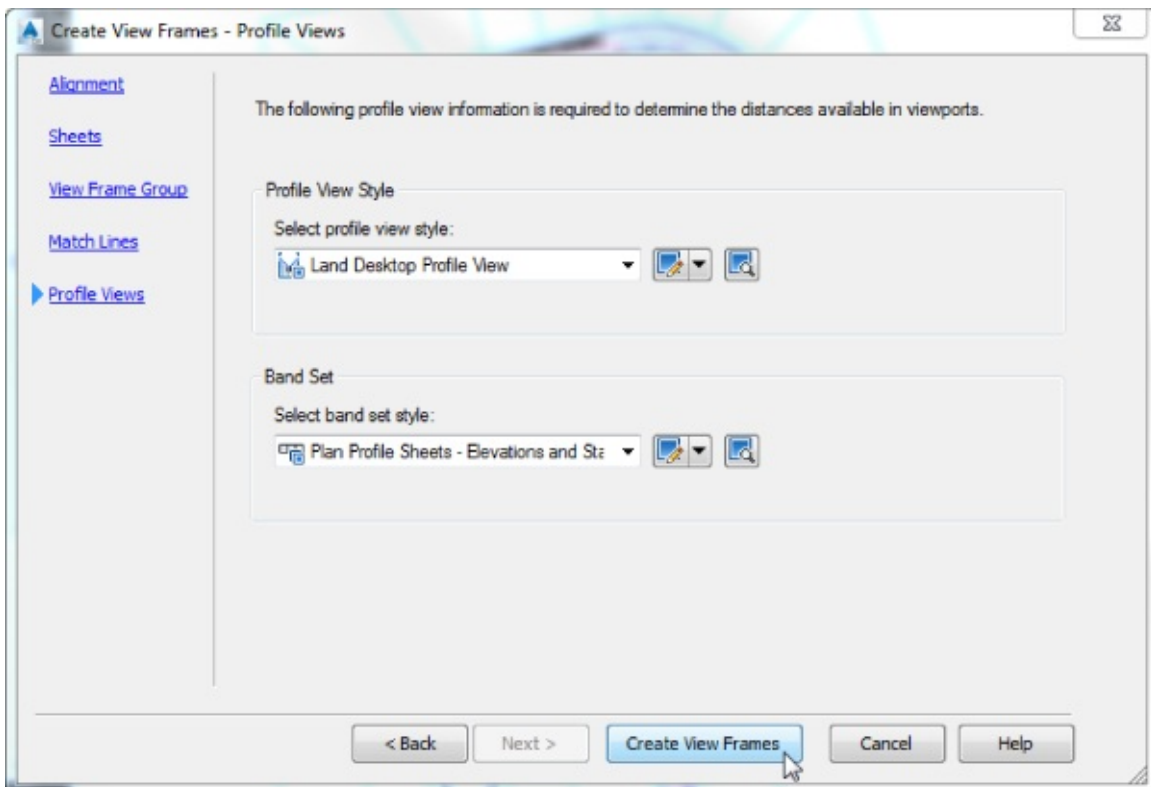

Figure 15.9 Create View Frames – Profile Views wizard page
The final page of the Create View Frames Wizard (Figure 15.9) is optional and will be disabled and skipped if you chose to create Plan Only sheets on the Sheets page of the wizard. Use the drop-down lists to select both the profile view style and the band set style. These styles will be discussed in Chapter 19, “Object Styles.”
7. On the Profile Views page, confirm that the settings are as follows (these are the same settings shown previously in Figure 15.9), and then click Create View Frames: